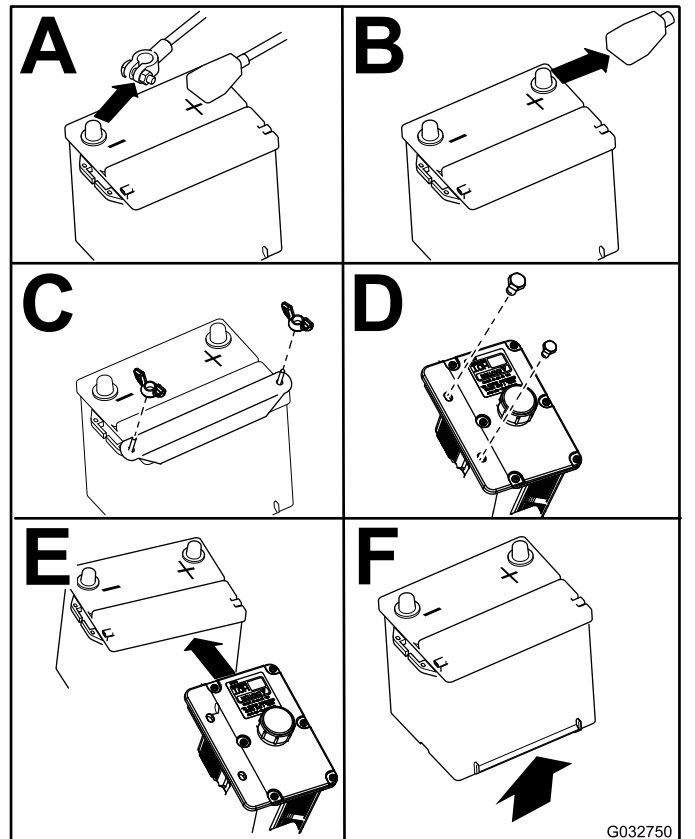

Figure 60
4. Remove the battery as shown in Figure 60.